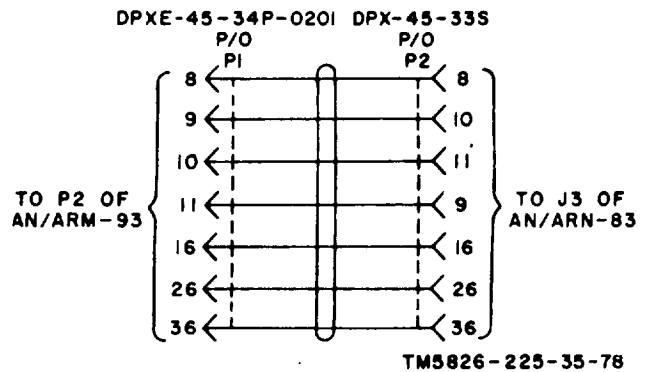
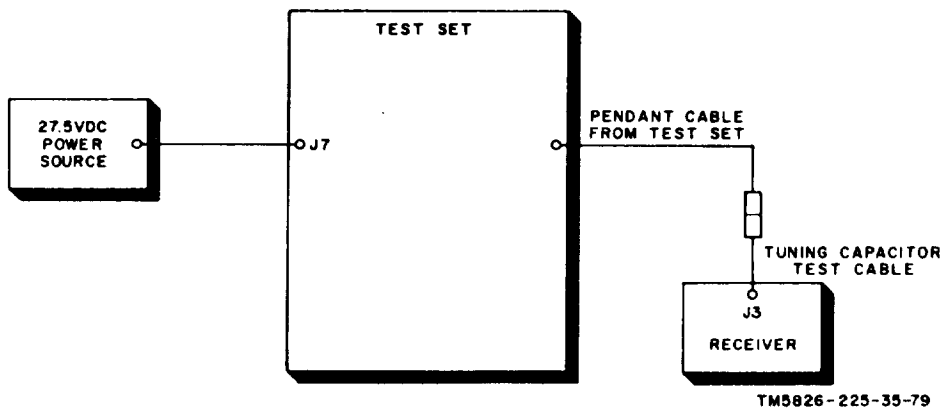

Figure 3-5. Schematic diagram of tuning capacitor test cable.
Figure 3-6. Block diagram of adjustment and synchronization of tuning capacitor setup.
d. Connect the equipment as shown in figure 3-6. A schematic diagram of the tuning capacitor test cable is shown in figure 3-5.
- (1) Function switch to ANT.
- (2) BFO-OFF switch to OFF.